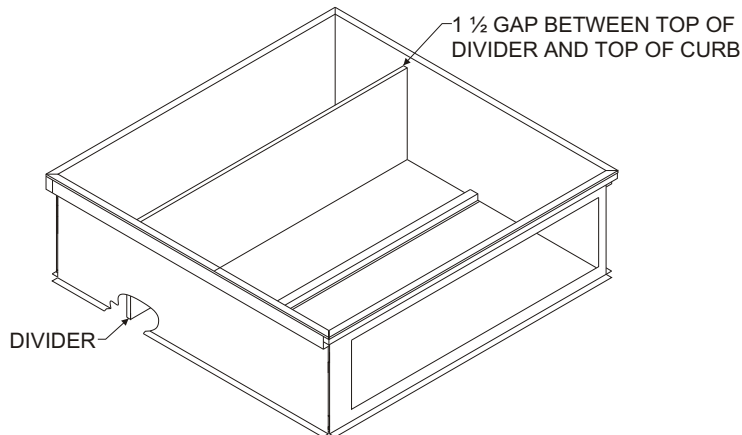

Figure 5
Install divider panel (J) using prepunched holes for alignment. See Figure 5.